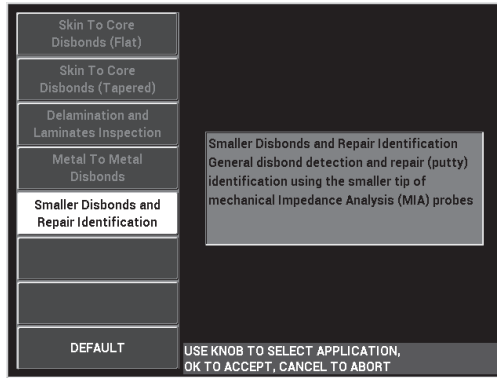

Figure 6-23 The Smaller Disbonds and Repair Identification application
3. Select the **Smaller Disbonds and Repair Identification** application, and then press  to accept (see Figure 6-23 on page 147).